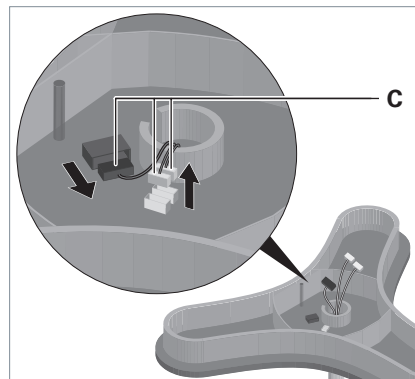

Fig. 16: Remove the plugs from the light head.
- ▶ Disconnect the plugs **C**, see Fig. 16.